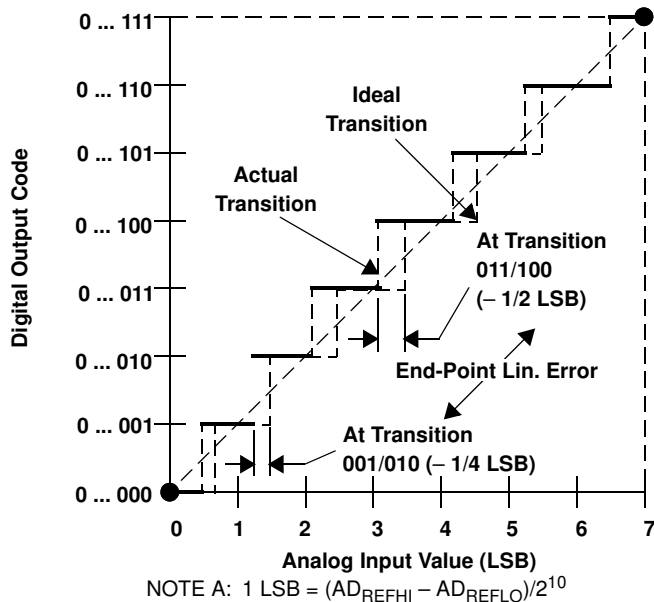

Figure 23. Integral Nonlinearity (INL) Error
The integral nonlinearity error shown in Figure 23 (sometimes referred to as linearity error) is the deviation of the values on the actual transfer function from a straight line.
- Figure 23. Integral Nonlinearity \(INL\) Error